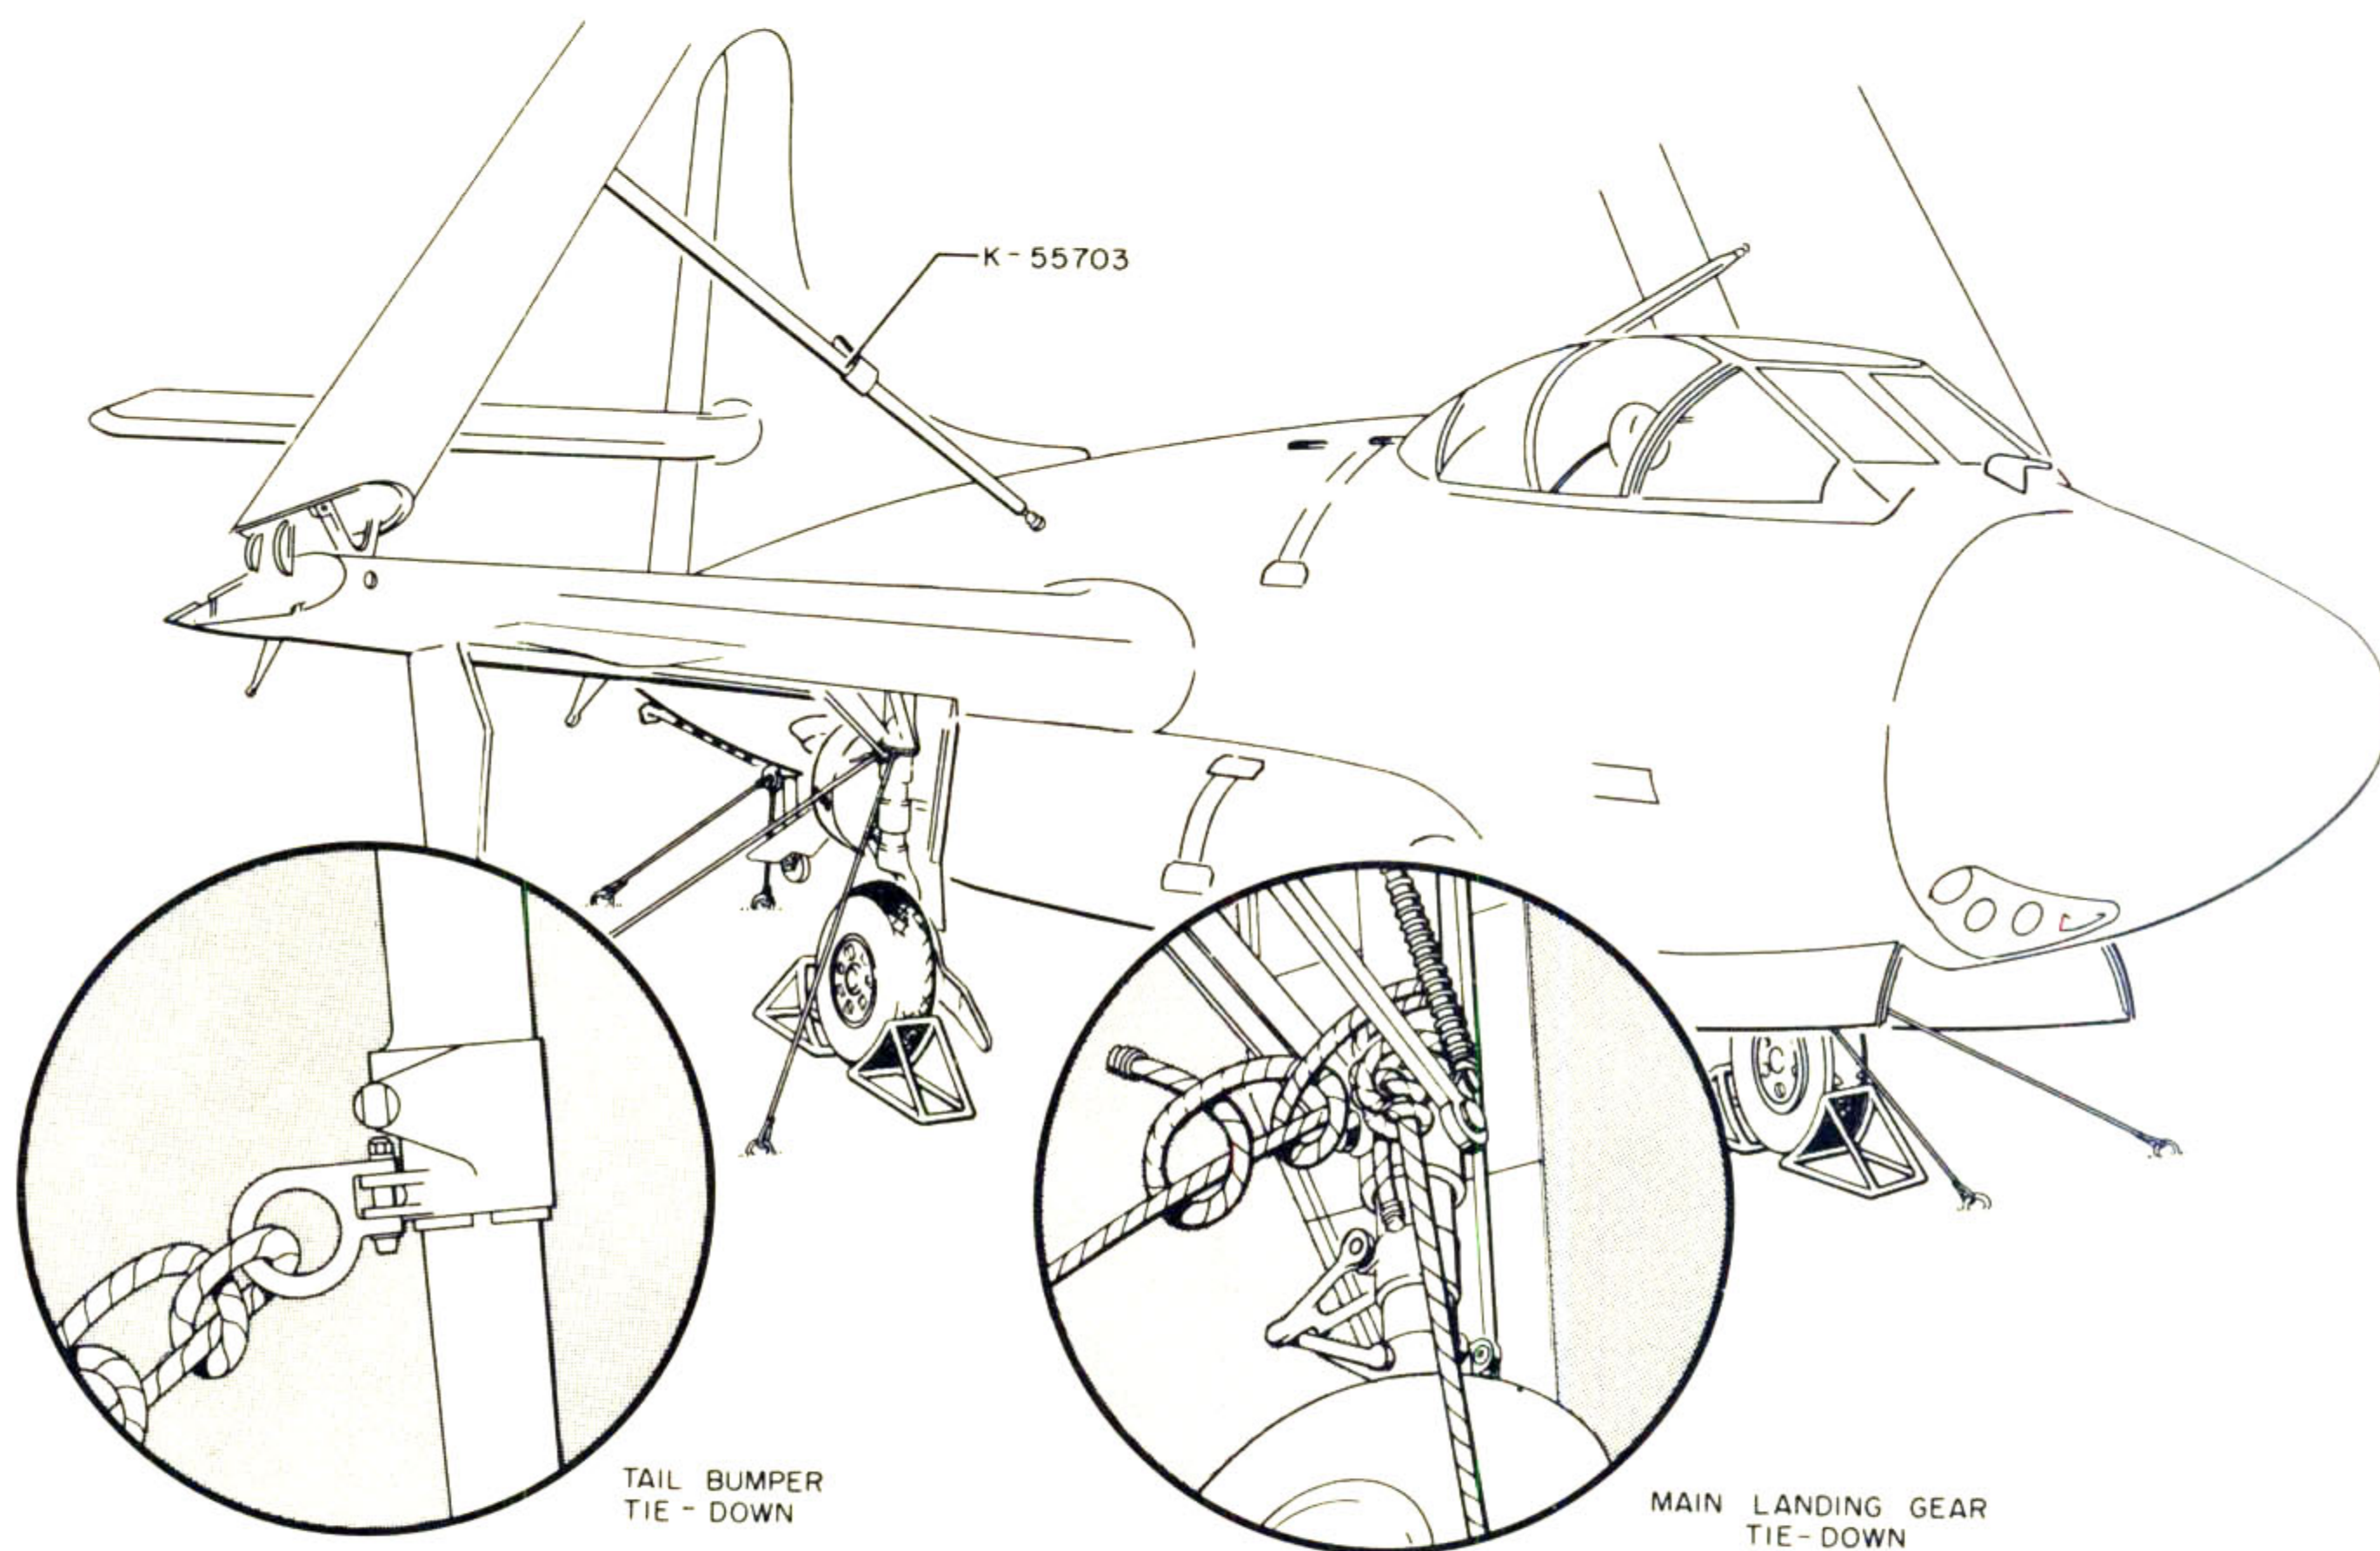

Figure 2-4. Mooring
- c. If gusty wind conditions prevail, tie the airplane down (see figure 2-4).